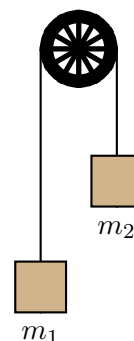

Figure 2: Atwood's machine. Block 1 is on the left, block 2 is on the right.
Atwood's machine consists of two blocks connected by a string suspended over a pulley as illustrated in Fig. 2. Typically the two blocks are released from rest. Newton's laws can be used to predict their subsequent acceleration, which can also be determined by measuring the speeds of the blocks as time passes. The aim of this experiment is to verify the accelerations as predicted by Newton's second law.
- Assume that $m_2 > m_1$ and consider block 1 in Fig. 2. Is the y -component of its acceleration positive, negative or zero? Is the y -component of the acceleration of block 2 positive, negative or zero?